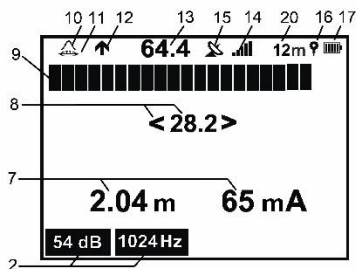

Fig. 18 Display in "Track" mode.
- TRACE – to locate the utility and detect its depth and operating frequency current flowing through it. The display of this mode is shown in Fig.18.
The “peak scale expansion 1:4” option reduces the scale divisions to increase its resolution. The  icon (Pos. 11 in Fig. 18) will be displayed, a yellow strip will appear under the peak scale to show the expansion bar graph relative to the normal (unexpanded) scale.
The method of current direction may be used to locate target line in the areas with high concentration of utilities. Select the mode of double-frequency signal of «1024 Hz» on the Transmitter, and set the operating Receiver's frequency at "1024Hz". If the double-frequency signal strength is sufficient, the indication of current direction (Fig. 18, Pos. 12) will be active automatically.